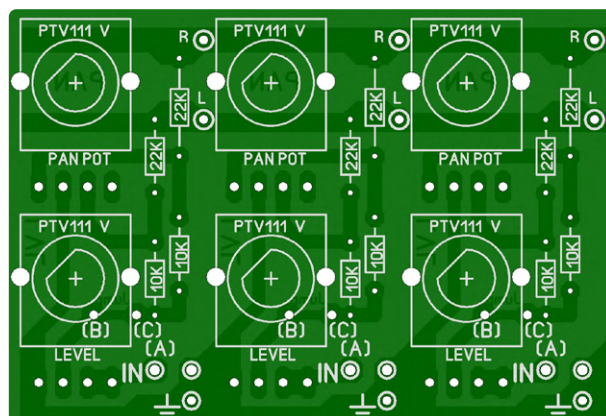

Figure 4: The Level & Pan board of the Audio Mixer, designed to host Bourns PTV111 series potentiometers.
The output of the preamplifier OP1A goes to the **LEVEL** potentiometer P1 (A) located on the Level & Pan board, shown in **Figure 4**. From the cursor of P1 (B), the signal is fed to OP1B, that works as a unity-gain buffer, to avoid any influence on the level resulting from the adjustment of **PAN** pot. But this buffer remains an option, which can be replaced by a jumper (B-C) under the potentiometer PCB.